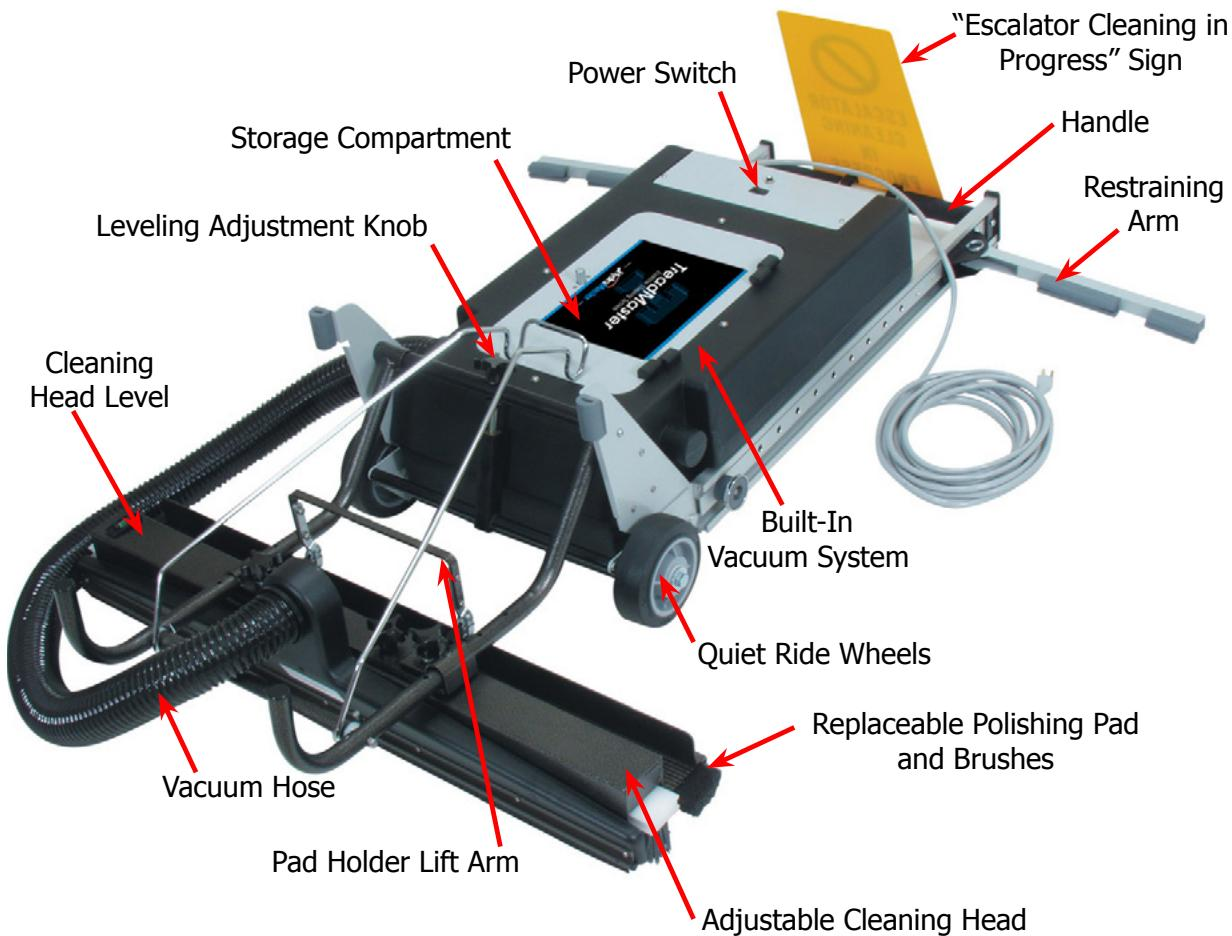

Figure 11. Components of TreadMaster
Make sure that the warning sign is clearly visible at all times during operation of the TreadMaster as indicated in Figure 11. If anyone attempts to use the escalator/moving sidewalk during cleaning operations, serious injury could result.
6. Slide the restraining arms in their channel to position the cleaning head over the tread. Notice that the pin in the end of the arm will fit into one of the holes in the channel, locking the arm into place. Extend the restraining arms to their full locked position (see Figure 11 and Figure 12).
8. Use the leveling adjustment knob to ensure proper contact with the tread surface (see Figure 11). Check the cleaning head level to ensure proper adjustment (see Figure 11 and Figure 13).
5. Turn on the TreadMaster's power switch (see Figure 11).